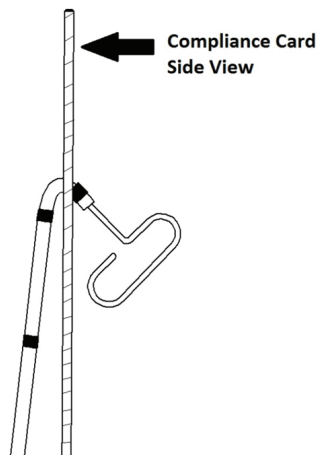

Figure 1 Shaped Configuration
5. Place the distal tip marker band with bend at the bottom and inside of the steam groove. (see Figure 1)